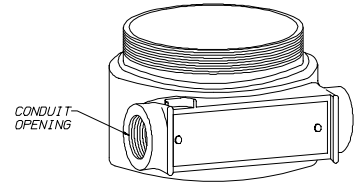

Figure 3.
- a. Remove the two screws securing the front label assembly (FIGURE 3).